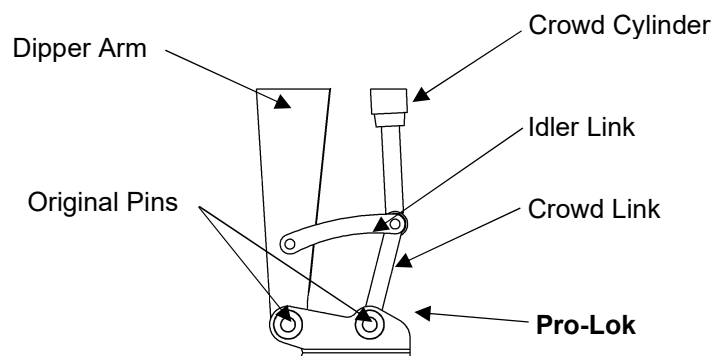

Figure 1
2. Carefully align the dipper arm between the two front bosses on the hitch as shown in Figure 1. Replace any 'O' rings that were removed and slide one of the original pins through the quick hitch and dipper arm. Securely fix the pin in place by using the original or supplied retention method. Ensure any retention bolts are tightened using double nuts to lock against each other, and any lynch pins are inserted fully.